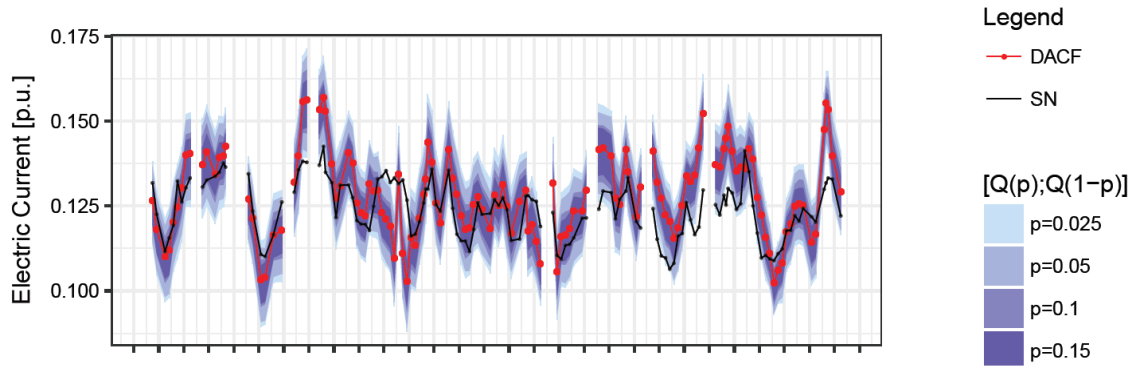

Figure 4 – Illustration of a computed fan chart (univariate analysis)
- **Fan.chart.p.valuei:** defines the four values to use for the fan charts (like the one illustrated in Figure 4), **typical value ={0.025;0.05;0.1;0.15}**.